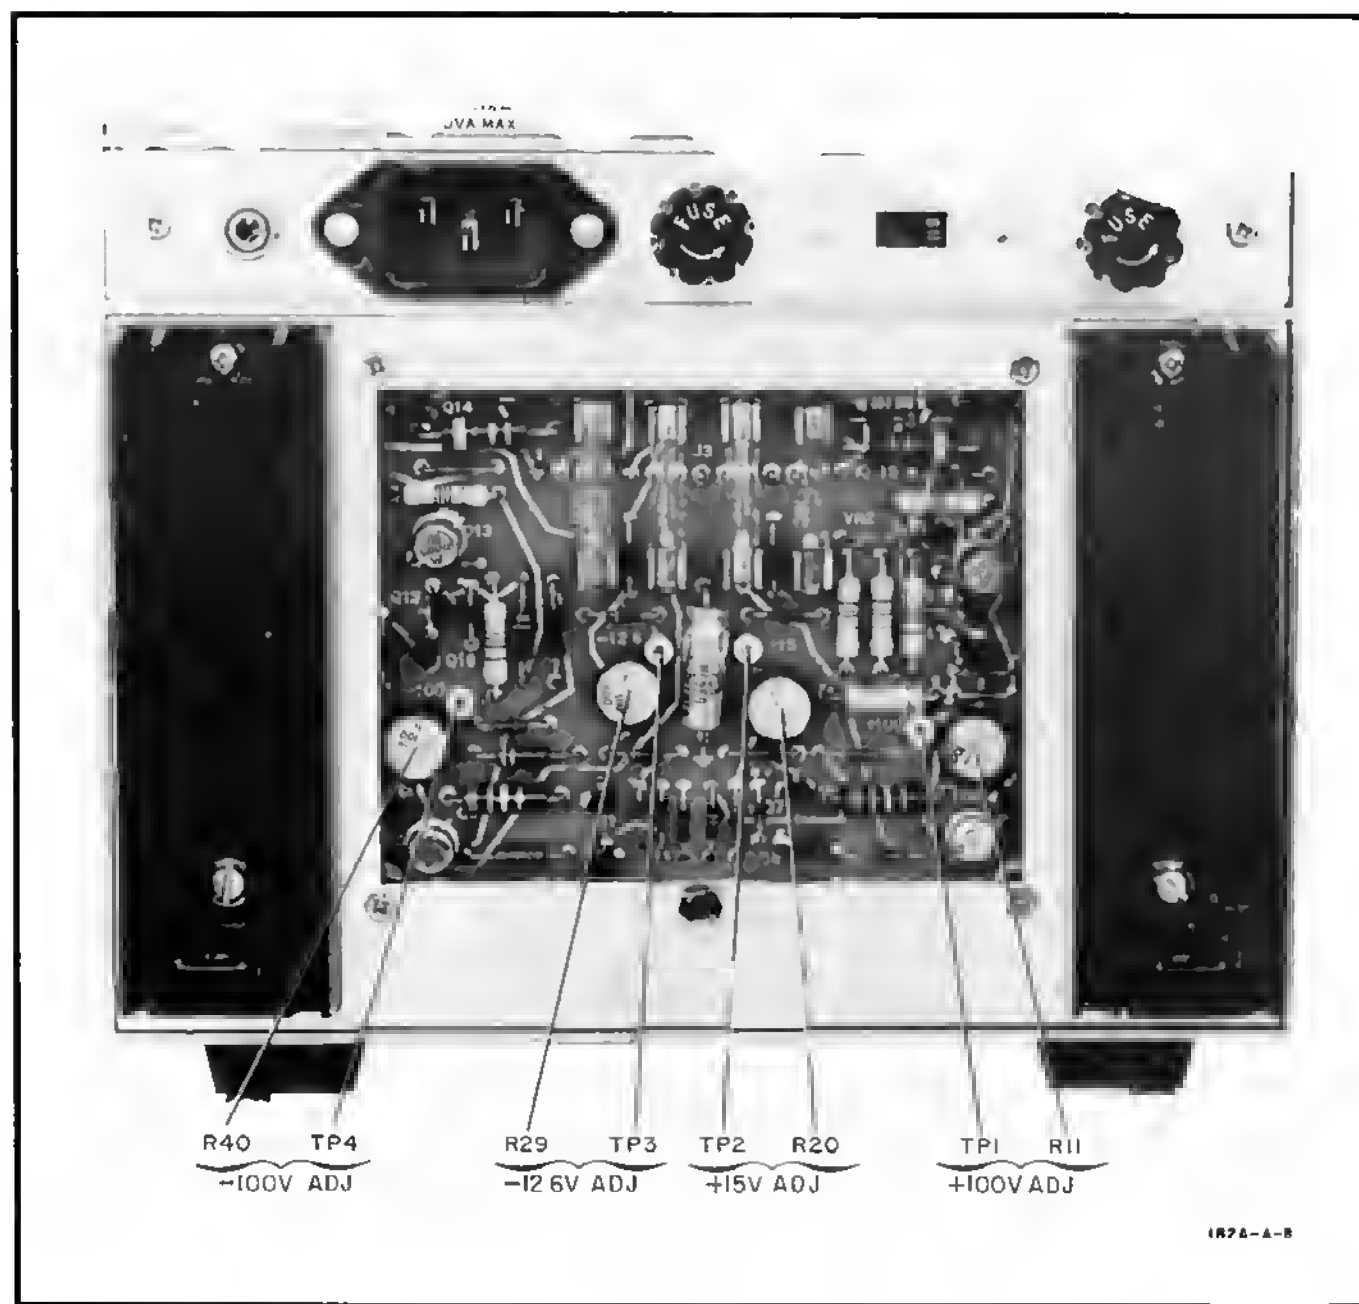

Figure 5-2. Low Voltage Power Supply Adjustments
- a. Connect Digital Voltmeter to +100V testpoint A1A2TP1 (Figure 5-2).